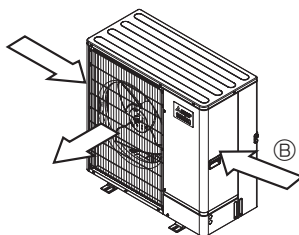

Fig. 1-21
- ③ Position the unit so that the air outlet blows perpendicularly to the seasonal wind direction, if possible. (Fig. 1-21)